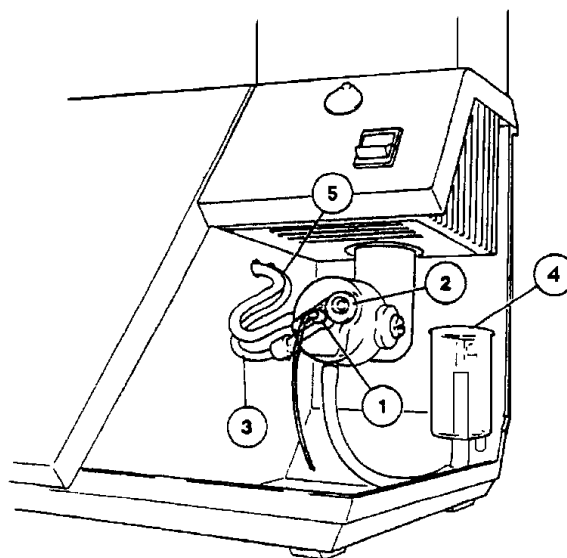

Figure 2.1 Mixing Chamber
3. Remove the Nebuliser (420 08 102) from its box and push the barbed connector in to the end of the air tubing (item 3, figure 2.1). Fit the Nebuliser (item 1, figure 2.1) to the mixing chamber and position the retainer (item 2, figure 2.1) to lock it into position. Locate the Nebuliser inlet tubing (400 22 003) and fit over the narrow tube in the front of the Nebuliser.